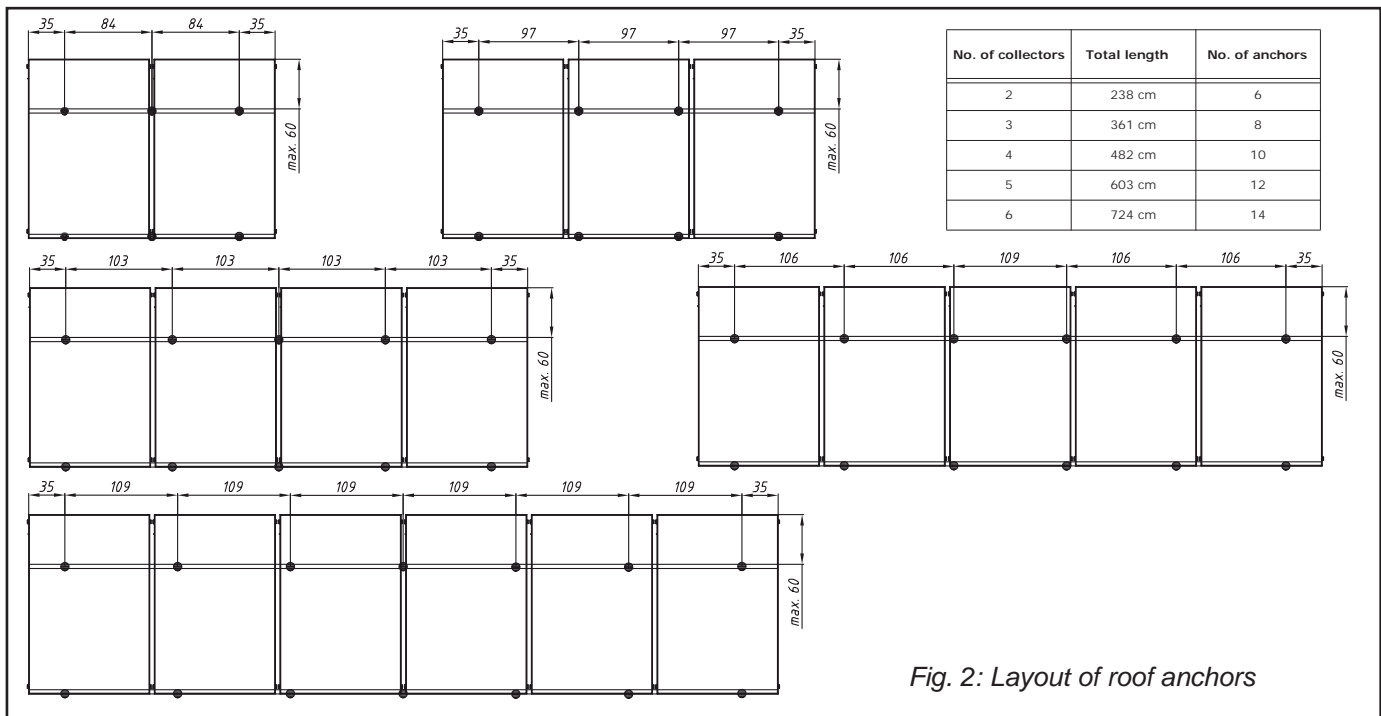
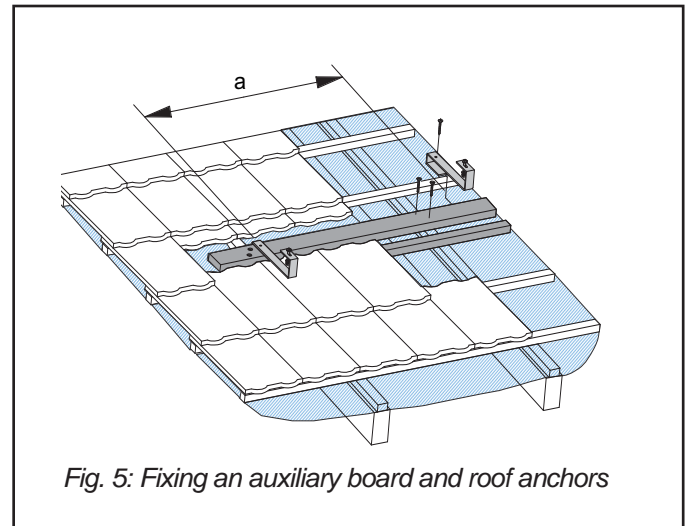

Fig. 2: Layout of roof anchors
Fig. 5: Fixing an auxiliary board and roof anchors
- Fix the auxiliary boards to battens so that the distribution of anchors resembles the positions in Fig. 2. At the same time screw the boards so high that the roof
- Hang the roof anchors onto the auxiliary board respecting their distribution shown in Fig. 2.
- Remove roofing in places where anchors shall be fixed (Fig. 5). The distance “a” between anchors is defined in Fig. 2.
- Depending on the number of collectors, measure and calculate the positions for fixing roof anchors (Fig. 2). Such places shall be selected for mounting where anchors can be fixed sufficiently into the roof frame (rafter or similar).